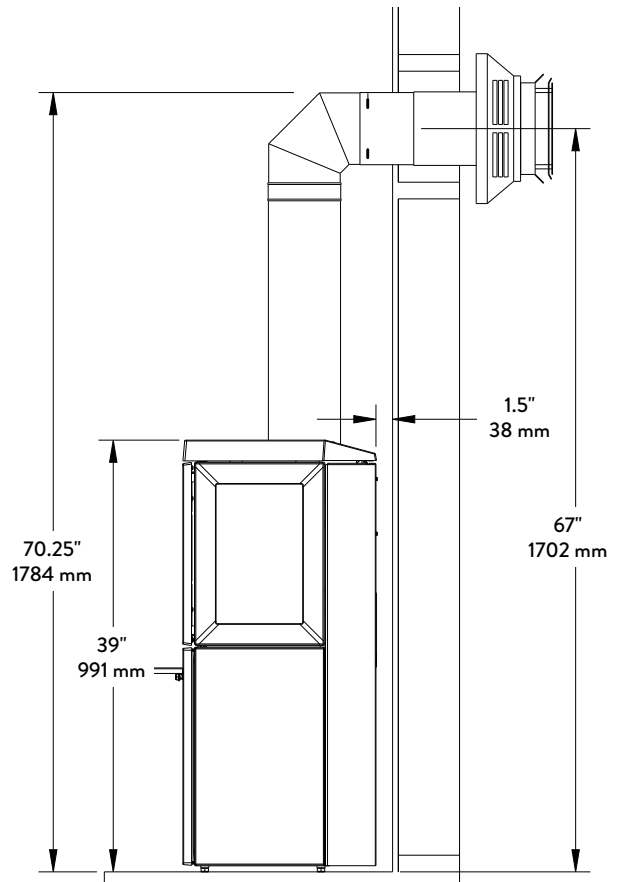

Figure 6.8. Recommended Horizontal Termination.
- Any horizontally-terminated vent run must include a minimum 12" (61 cm) vertical rise with a minimum 6" horizontal run. See figs. 6.8, 6.9, 6.10.